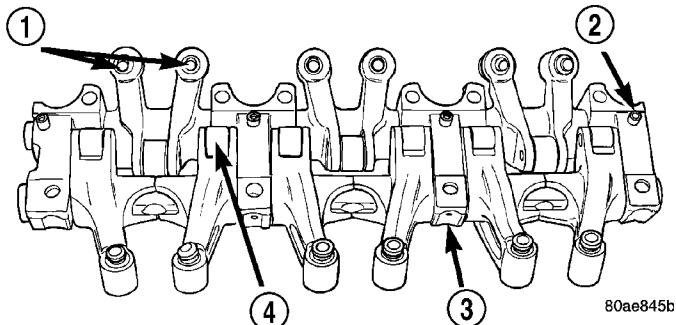

Fig. 43 Assemble Rocker Arms and Shaft
(1) Install the rocker arms, and pedestals onto the shaft.
(2) Install dowel pins (Fig. 43). Dowel pins pass through the pedestal into the exhaust rocker shafts. Dowel pins should be pressed in until they bottom-out against the rocker shaft in the pedestal.